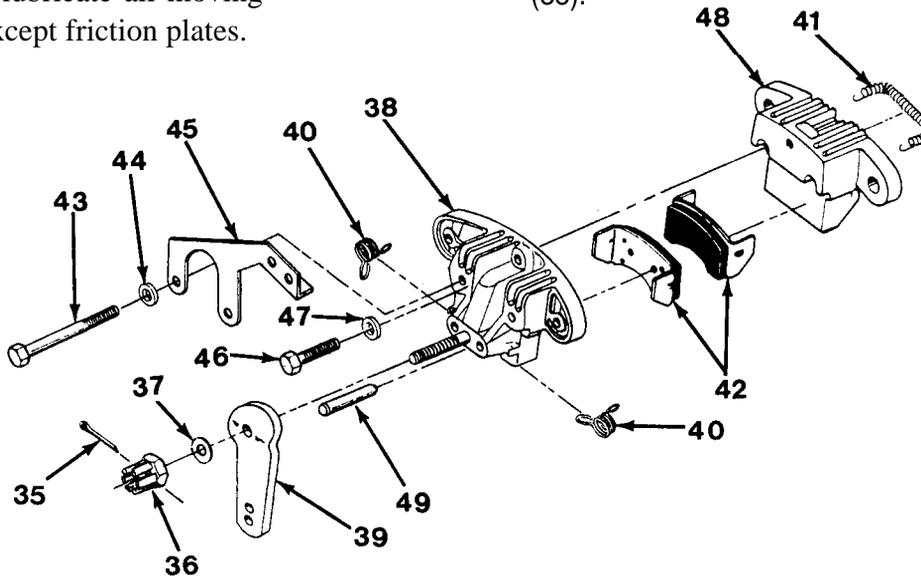

Figure 17-6
1. Adjust pad holder assemblies (42) clearance to 0.010 to 0.020 in. (0.25 to 0.51mm) by turning castle nut (36, Figure 17-6) in or out until proper clearance has been obtained.